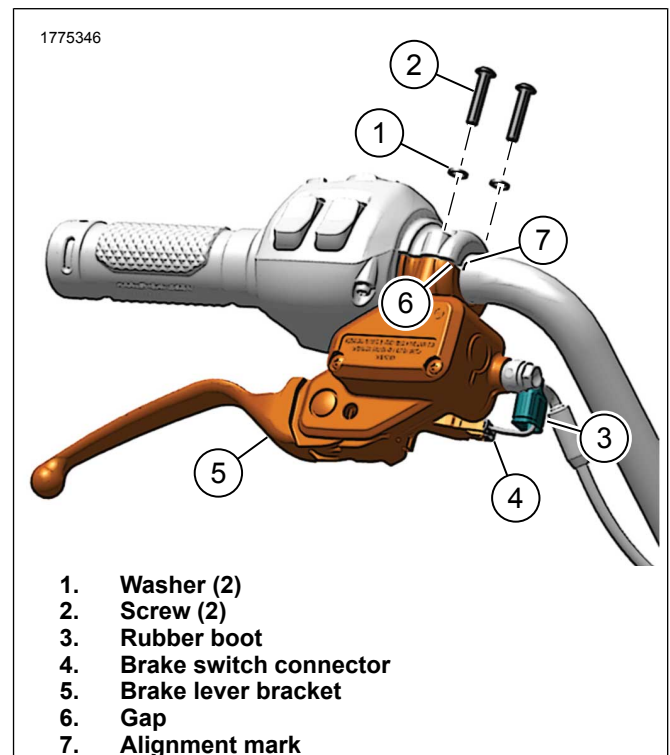

Figure 8. Brake Lever Bracket (typical)
5. See Figure 8. Install brake lever bracket.
- a. Place brake lever bracket (5) on RHCM bracket.
- b. Install washers (1).
- c. Install screws (2) and align gap (6) with alignment mark (7).